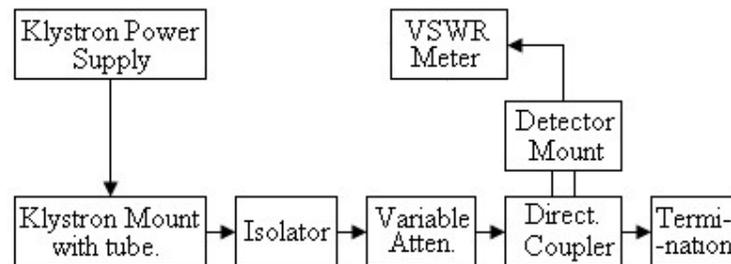

Fig.7 – **Block Diagram for Measurement of Directional Coupler**
1. Arrange the experimental setup as shown in Fig.7 and switch on the Gunn power supply and tune Gunn Oscillator until you get a clear Square pulse in the range of min100 mill volts signal.